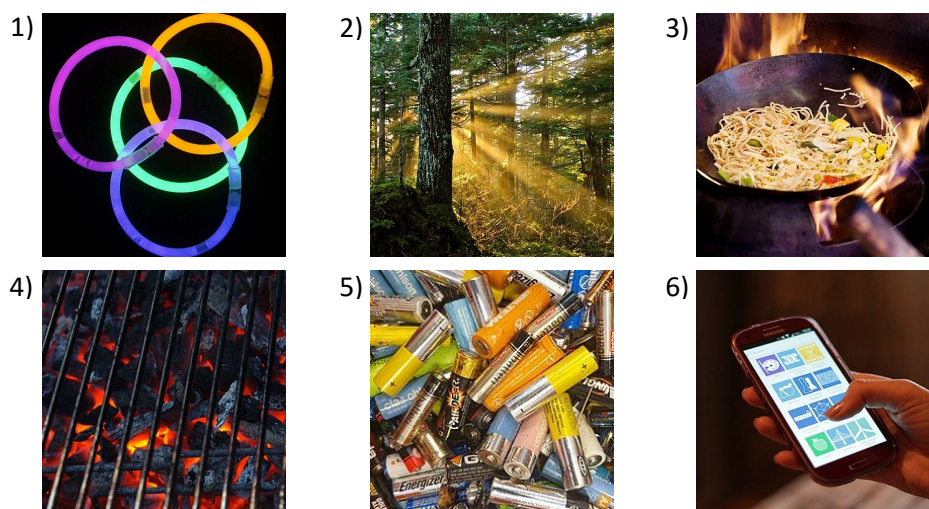

Fig 4. Different forms of energy in chemical reactions
5. Look at Fig. 4. Name the energy conversions depicted in each picture.